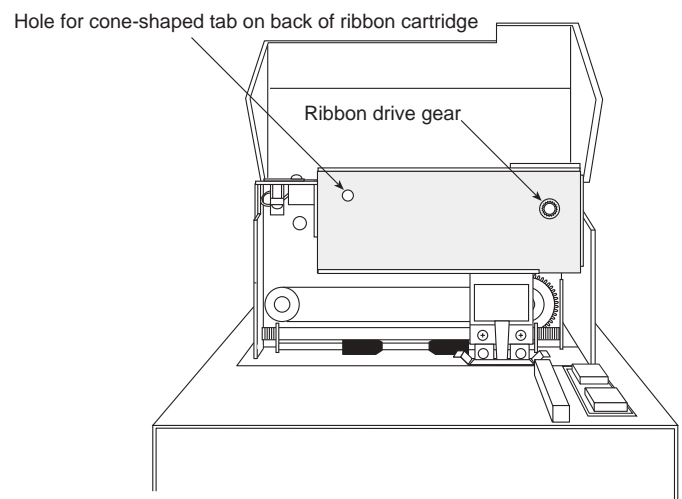

Figure 2. SP2200 print mechanism, showing ribbon drive gear
3. Snap the cartridge into place, fitting the hole in the ribbon take-up knob over the ribbon drive gear (see Figure 2). If necessary, adjust the ribbon take-up knob to align the cartridge gear with the ribbon drive gear.